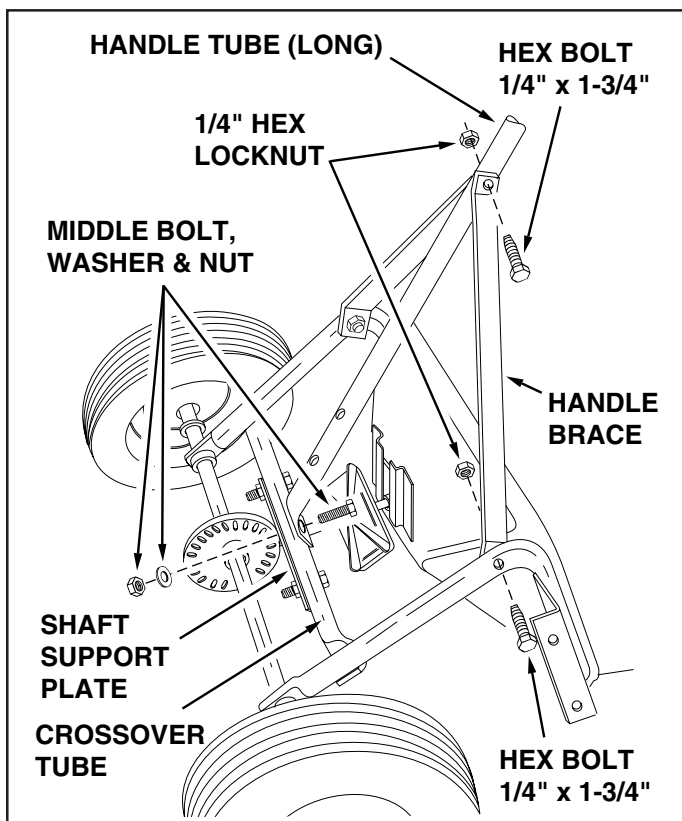

FIGURE 4
10. Assemble the (long) handle tube to the side of the crossover tube opposite the shaft support plate, as shown in figure 4. Fasten the handle tube to the middle hole using the bolt, flat washer and hex lock nut which you removed in step 9. **Do not tighten yet.**
11. Assemble the end of a handle brace to the inside of each leg of the hopper tube frame, using a 1/4" x 1-3/4" hex bolt and 1/4" lock nut for each brace. See figure 4. **Do not tighten yet.**
12. Assemble the other end of both handle braces to the handle tube using a 1/4" x 1-3/4" hex bolt and 1/4" hex lock nut. **Do not tighten yet.** See figure 4